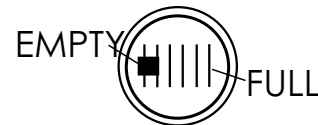

Figure 14. Fuel Gauge
3. Read the fuel gauge located on top of the fuel tank (Figure 14) to determine if the fuel level is low. If fuel is low, replenish with clean unleaded fuel.